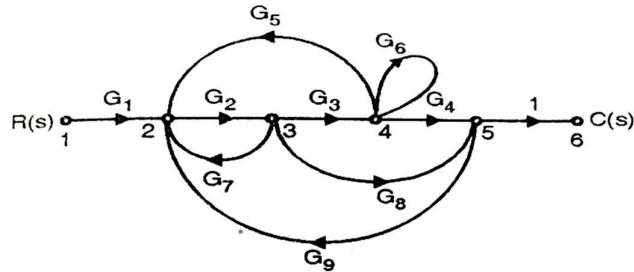

FIGURE 1
- (b) Design a mechatronics system using different elements needed for controlling (16) speed of a rotating shaft which is powered by a motor. Draw the relevant diagrams and justify the selection.
12. (a) (i) Explain the role of least square method in modelling. (4)
- (ii) Use signal graph method to derive transfer function for given below figure 1 (12)